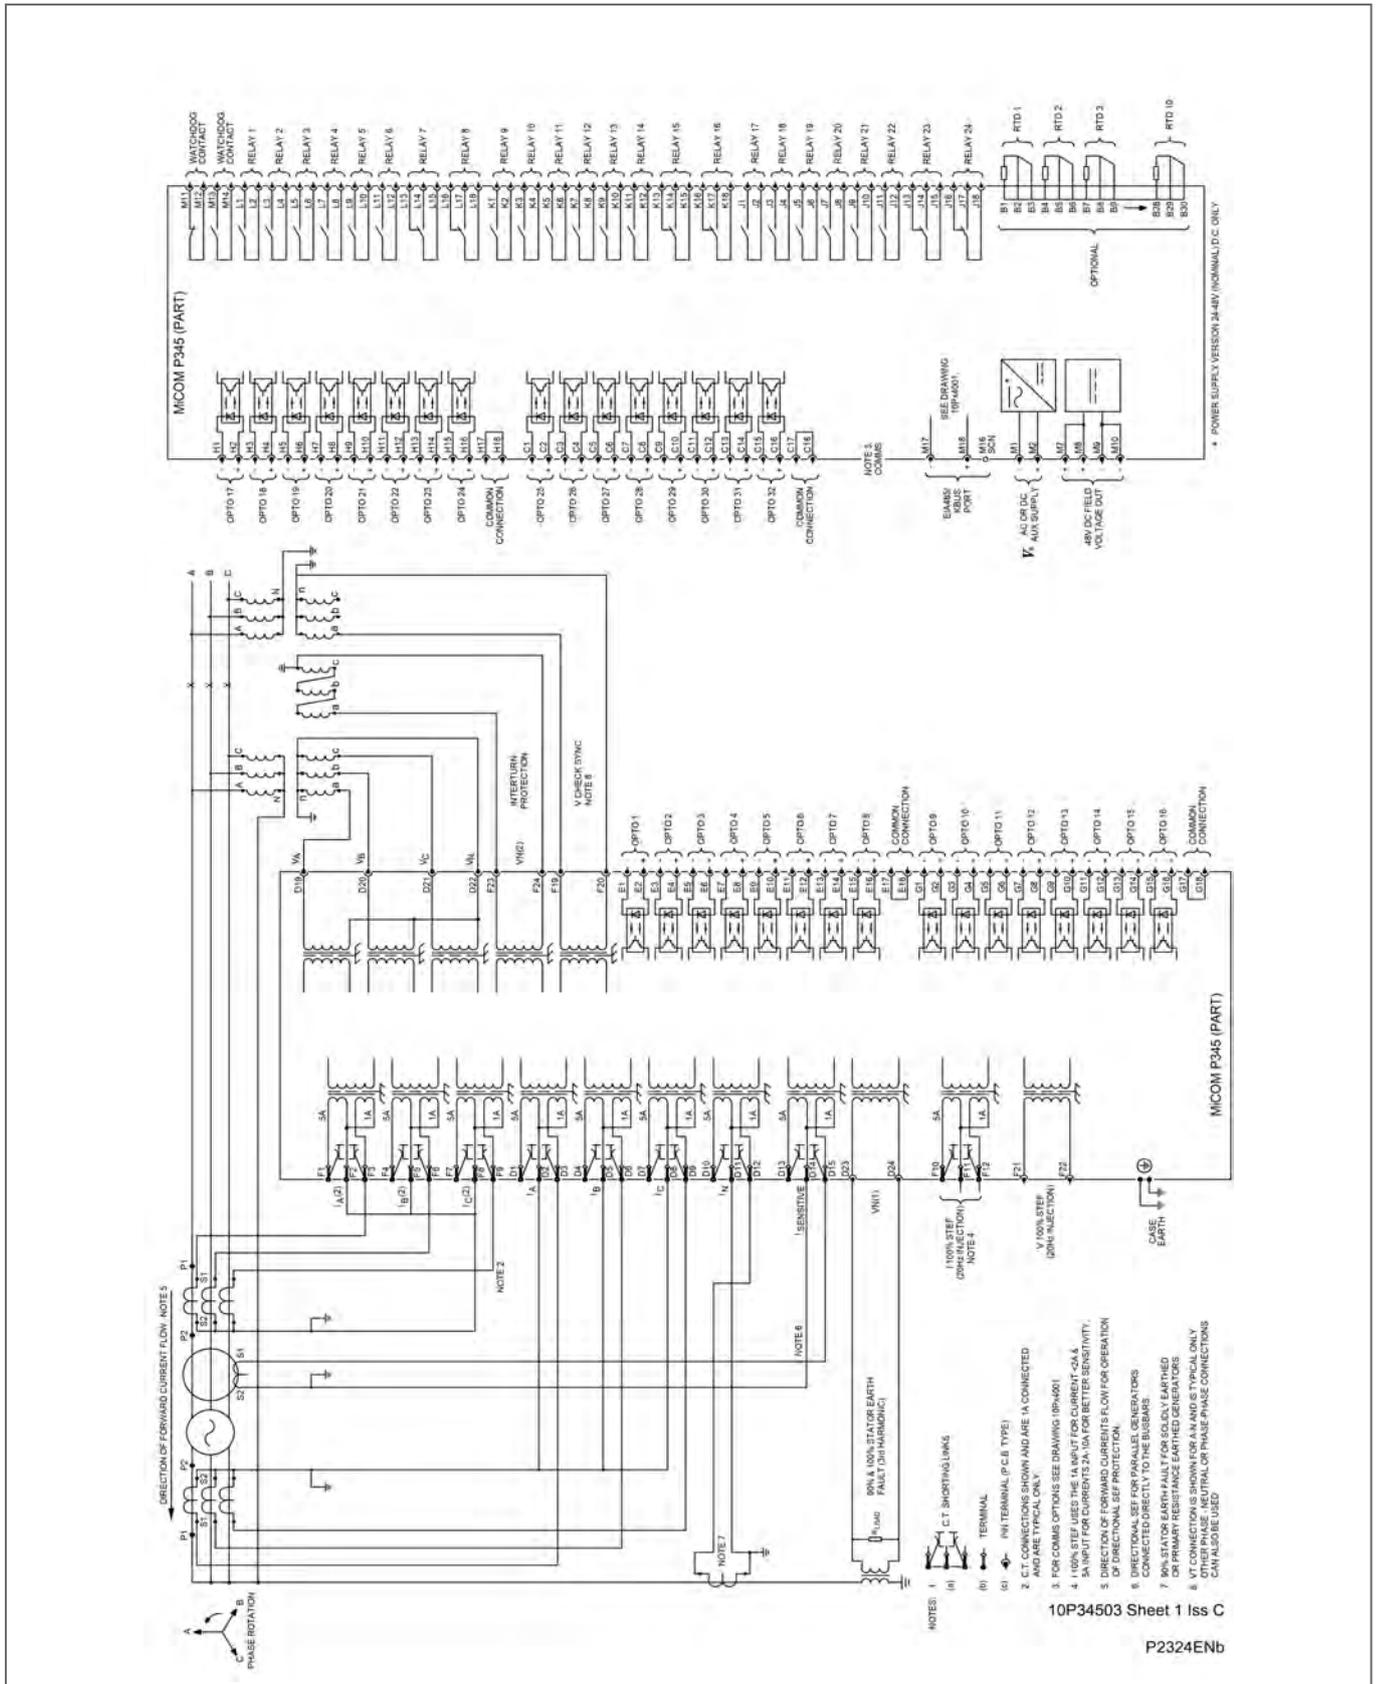

Figure 87 - P345 (80TE) with 90% & 100% (3rd Harmonic) stator earth fault & interturn protection (32 I/P & 24 O/P & RTD)
- Figure 87 - P345 (80TE) with 90% & 100% (3rd Harmonic) stator earth fault & interturn protection (32 I/P & 24 O/P & RTD)